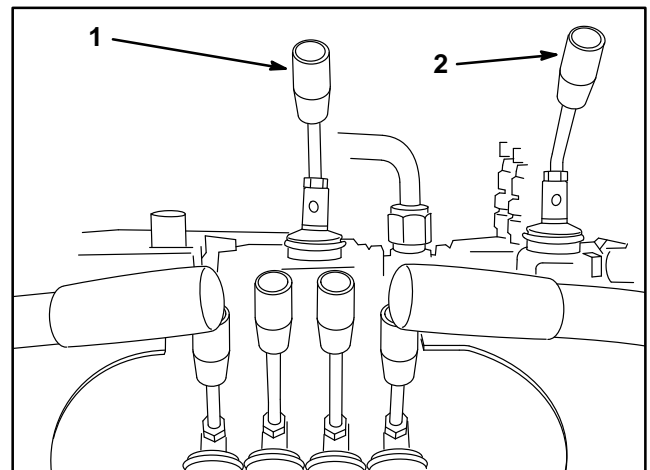

Figure 1
1. Thread a lever into the auxiliary hydraulics valve and pump selector valve (Fig. 1) Levers to be installed with bend toward operator.